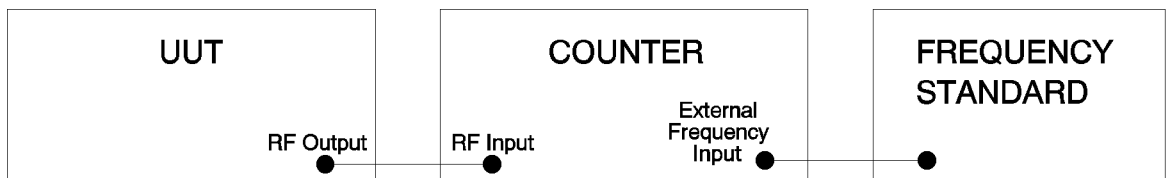

Figure 7-2. Internal Reference Oscillator Adjustment Setup
4. Connect the equipment as shown in Figure 7-2 (where the UUT is the signal generator).